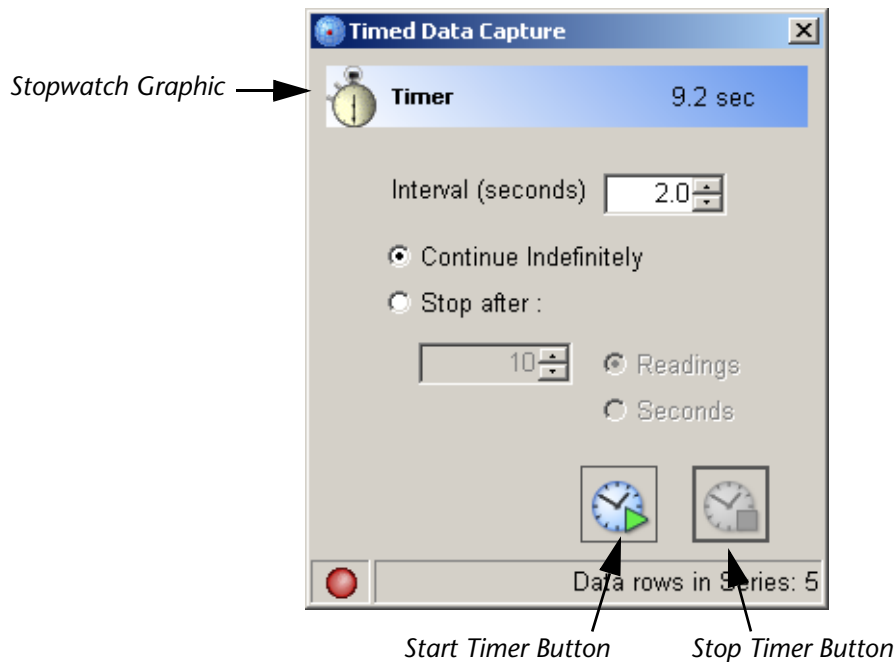

Figure 35 The Timed Data Capture Box
2. Click on the 'Start Timed Data Acquisition' Toolbar button. A 'Timed Data Capture' box will appear (see Figure 35).